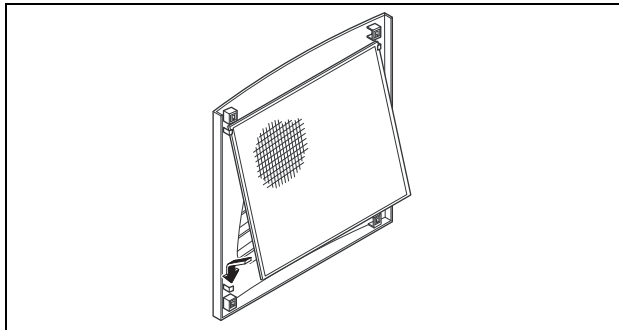

Fig. 7: Installing the filter mat
- Insert the filter mat into the louvred grille as shown in Fig. 7 and push it back onto the enclosure.